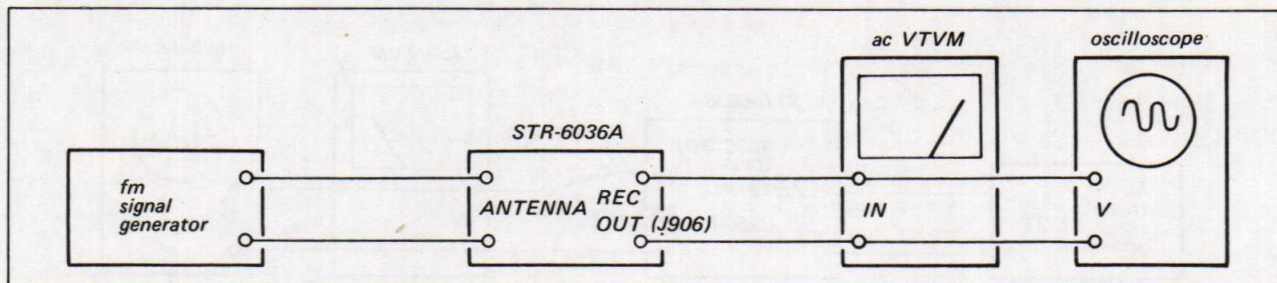

Fig. 3-7. Fm frequency coverage and tracking alignment test setup by rf signal generator
1. Connect the equipment as shown in Fig. 3-7.